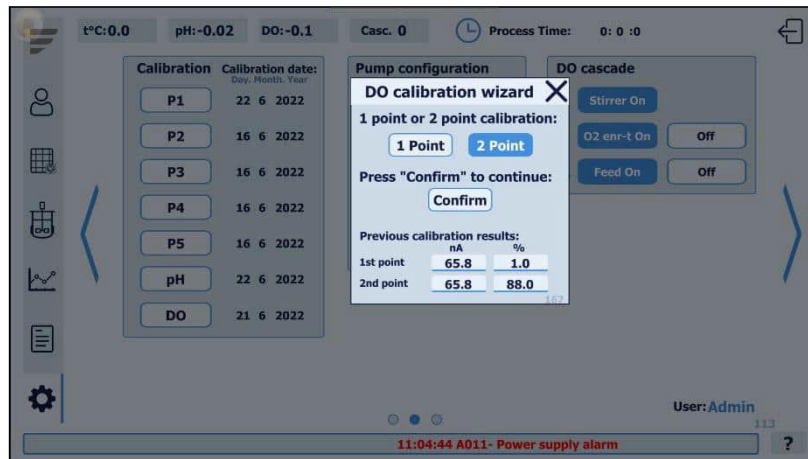

Figure 12.3. pO₂ calibration wizard
- 1) Use the access path MENU → SETTINGS (2nd WINDOW) → CALIBRATION → DO, to open the DO calibration wizard (see Figure 12.3) and select the desired calibration method;
- 2) Choose 2 Point, then - press Confirm. Notification with instructions for placing the electrode in an oxygen-free environment will appear, enter the value of the first calibration point (0 %) (see Figure 12.3);